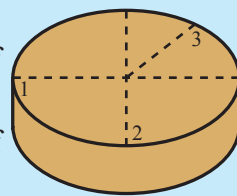

Figure 4.10
- Fix a nail to the center of the wooden disc as shown in figure 4.10.